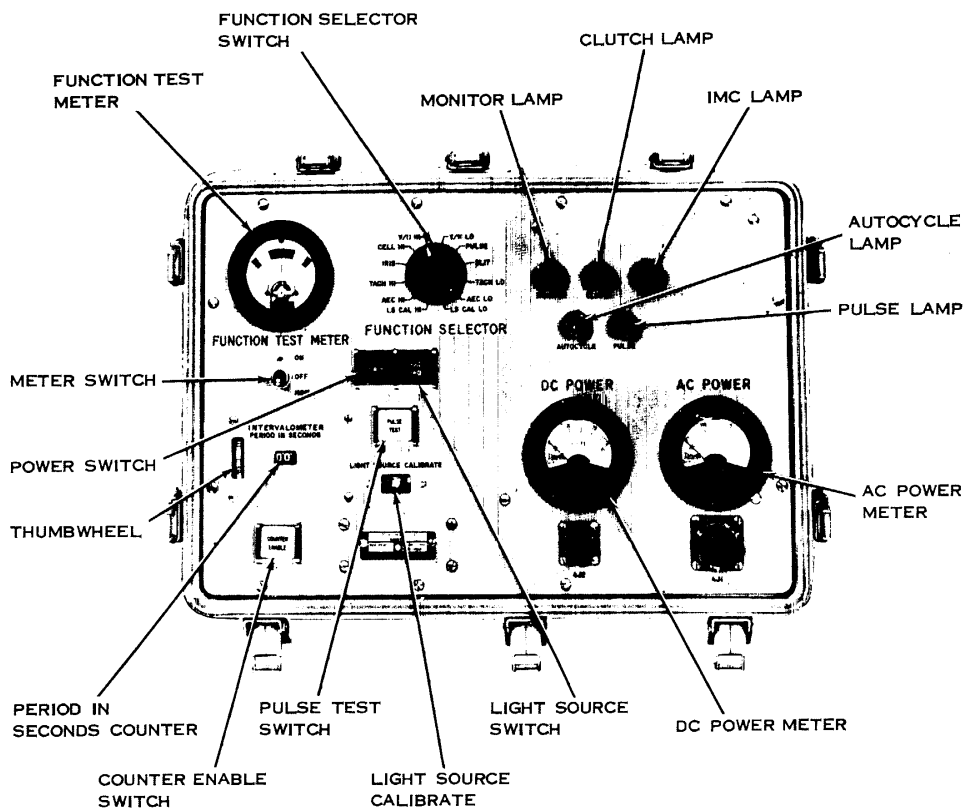

Figure 32. Test Set, Front Panel.
b. The following chart lists the test set's controls and indicators and describes their functions. For their locations, refer to figure 32.